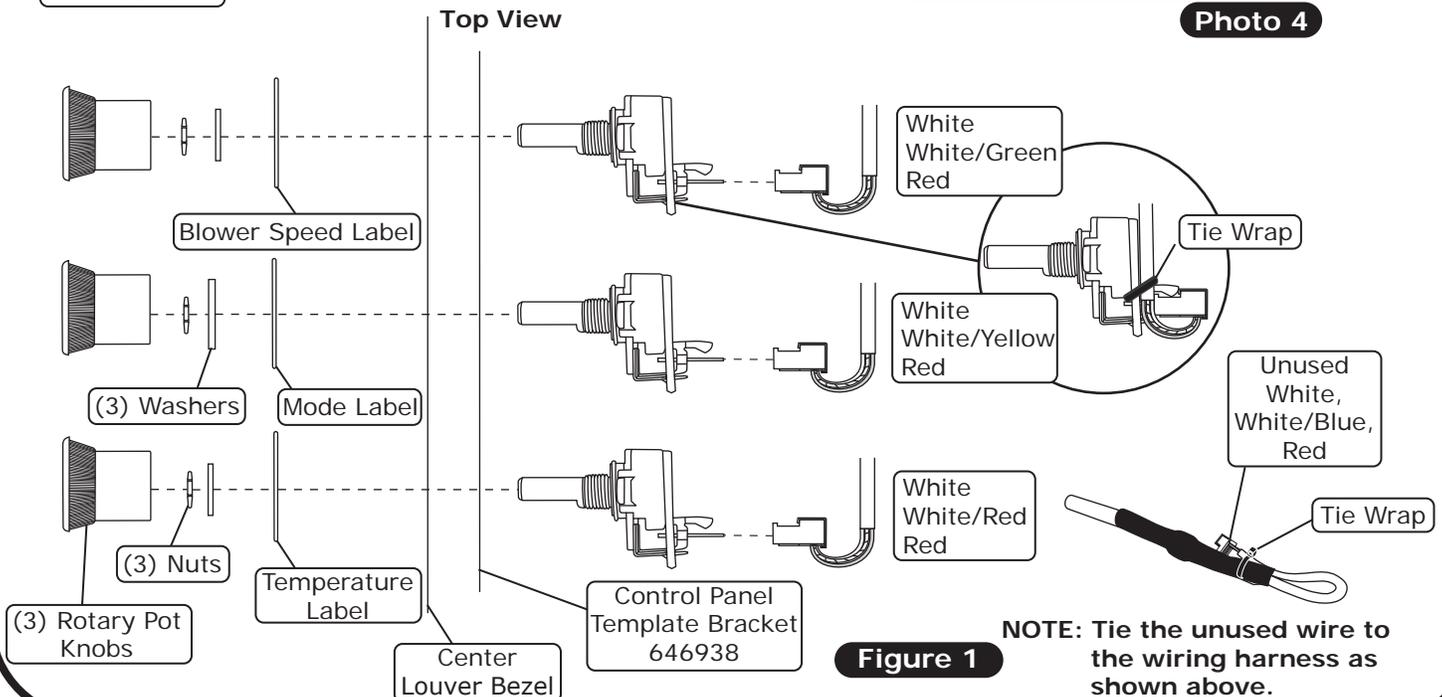

Figure 1
1. Locate the control panel template bracket and the under dash louver bezel. Place the template into the bezel with the small holes toward the bottom of the louver, and slide the bracket all the way to the end. Secure the bracket using clamps or a vise grip. **NOTE: Protect the front of the bezel where the clamps are attached to avoid scratching the plastic.** Using the bracket as a template, drill (3) 19/64" and (3) 5/32" holes (See Photo 1, below).
2. Install the (3) labels as shown in Photo 2, below.
3. Install the (3) rotary pot assemblies into the back side of the bracket/template. Insert the notch of the rotary pot into the small hole and secure it into the louver and bracket using the washer and nut provided on each control (See Photos 3 and 4, below).
4. Install the wiring harness onto the rotary pot assemblies and secure using (5) small tie wraps as shown in Figure 1, below.